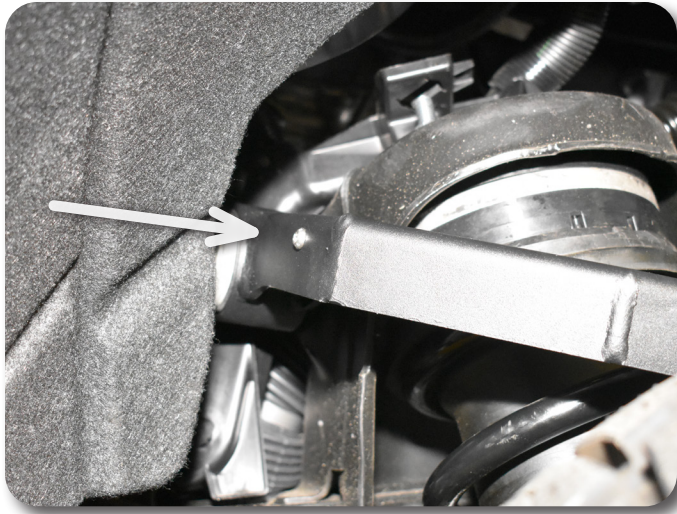

Figure 21
28. If the upper control arms are used on a Denali truck, transfer the ball stud to the threaded hole on the front side of the upper control arm **Figure 21**. Reattach the sensor arm to the ball stud. The sensor location on the ZONE UCA is already relocated for 2" leveling kits, the sensor does not need to be relocated at the frame.